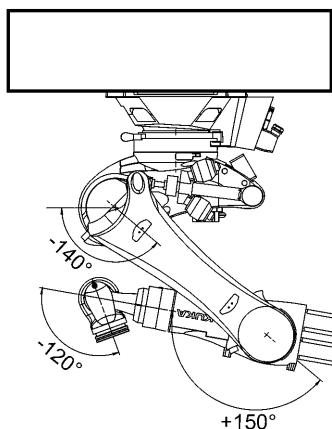

Fig. 12-3: Transport position
3. Put the robot into operation and move it into the transport position (**>>>** Fig. 12-3).